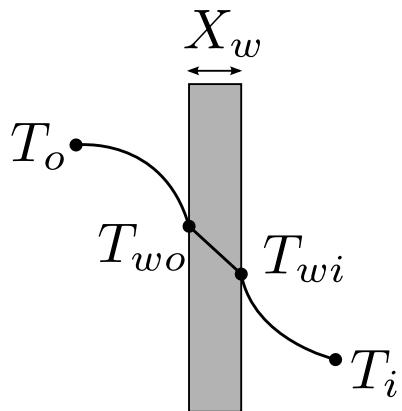

Figure 16: The temperature profile through the pipe wall.
- a) Chilled water flowing through brass tubes of 0.0126 m inside diameter and 0.0018 m thickness cools a stream of air flowing outside of the tube. The film coefficients for the air and water flows are $176 \text{ Wm}^{-2}\text{K}^{-1}$ and $5660 \text{ Wm}^{-2}\text{K}^{-1}$ respectively and thermal conductivity of the brass is $102 \text{ Wm}^{-1}\text{K}^{-1}$ (see Fig. 16).